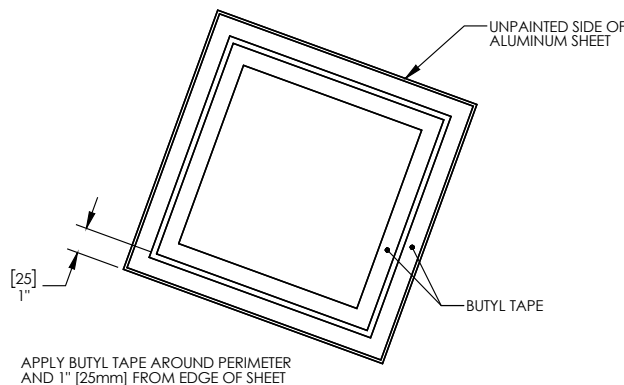

Figure 4: Butyl tape applied to aluminum sheet.
- b. Scuff the unpainted side of the aluminum sheet and apply butyl tape around the inner perimeter of the sheet. apply a second application approx. 1" [25mm] in from the perimeter as shown in Figure 4.